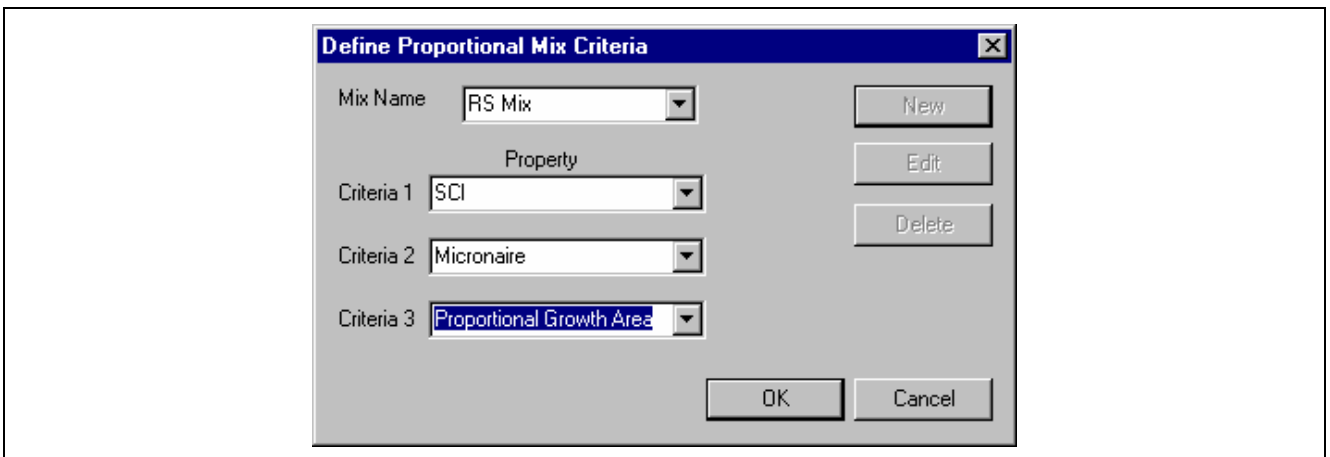

Fig. 6-27 Define Proportional Mix Criteria, Screen III
8.2 Use the pull-down menu at Property to select SCI, Micronaire and Proportional Growth Area for Criteria 1, 2 and 3 (Fig. 6-27).